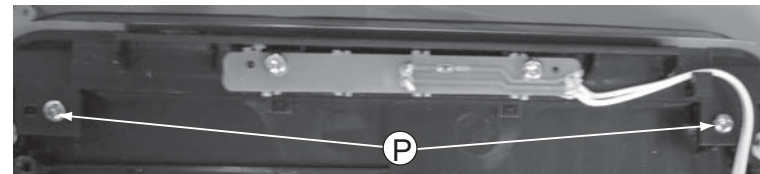

Figure 17
- 4) Loosen 2 screws "P" at the DVD door lens ass'y to remove it as shown in figure 17.